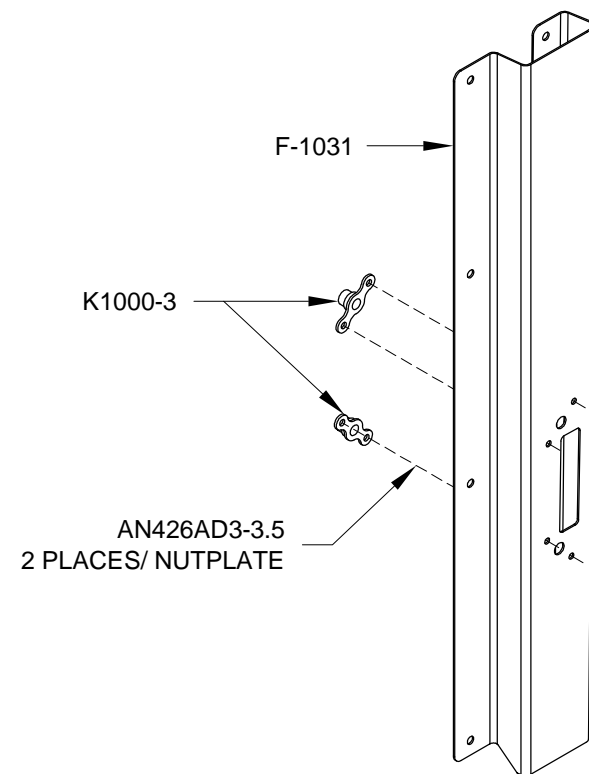

FIGURE 1: RIVETING NUTPLATES TO THE UPPER BAGGAGE DOOR SEAL CHANNEL
Step 2: Rivet in place the F-1024 Seat Floors, the F-1022A Baggage Floors, and the F-10103A Lower Seat Hinge Halves using only the rivets called-out in Figure 1. The remainder of the seat floors are riveted in a later section.